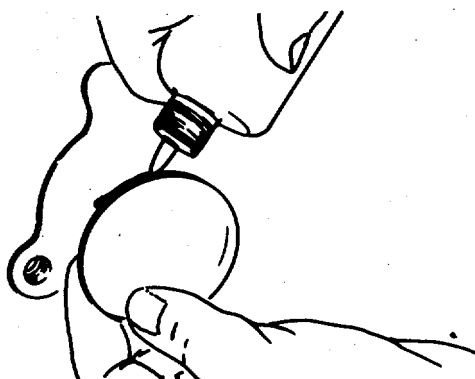

FIGURE 4-100. Applying Loctite.
- p. Apply a bead of loctite 227 around the outside diameter of the camshaft expansion plug. (FIGURE 4-100)